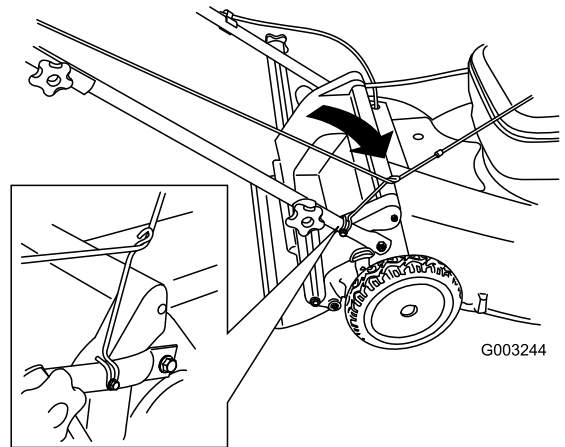

Figure 23
3. Route the starter rope around the lower rope guide (Figure 23).